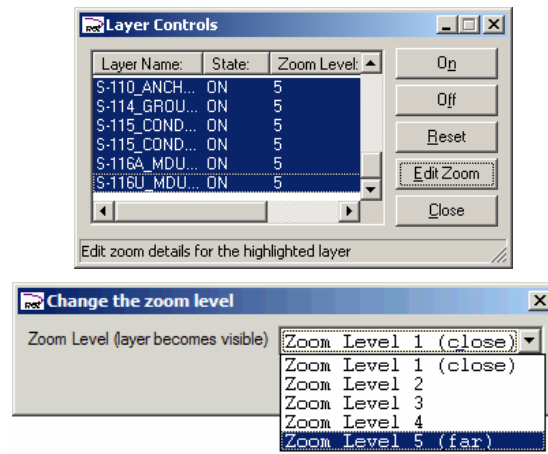

Figure 15 – Layer Visibility Control and Edit Zoom panel
3. Click the **Edit Zoom** button on the dialog box shown in Figure 15, below.
4. Set the Zoom Level to **Zoom Level 5 (far)**, as shown in Figure 15, below.